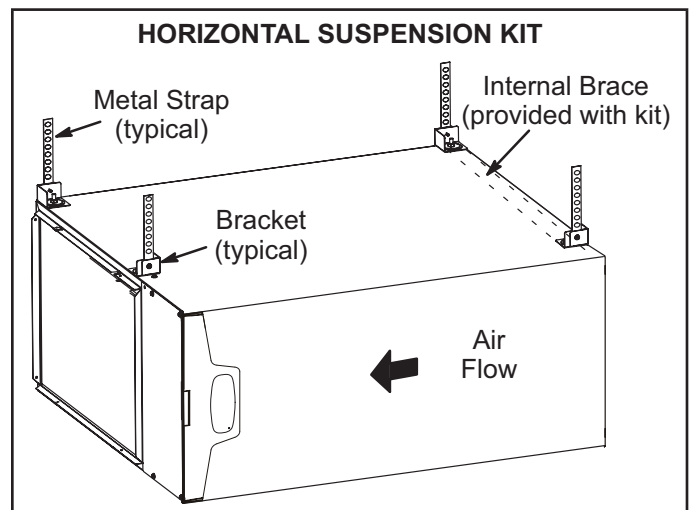

**FIGURE 17**
The ML296UHV furnace can be installed in horizontal applications with either right- or left-hand air discharge. Refer to FIGURE 17 for clearances in horizontal applications.
- 1 - Select location for unit keeping in mind service and other necessary clearances. See FIGURE 17.